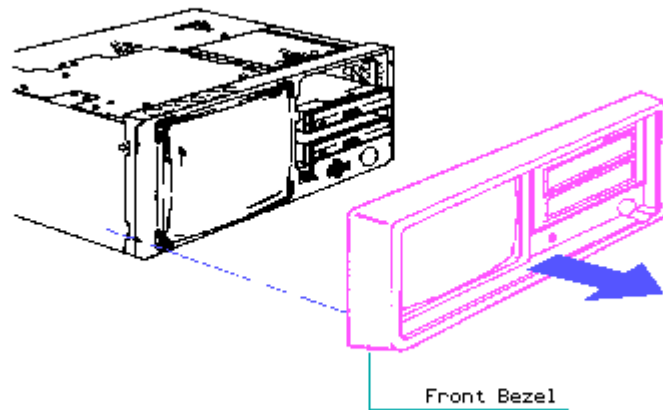

Figure 7-15. Removing the Front Bezel
5. Lower the system chassis and gently pull the front bezel from the system chassis (Figure 7-15).